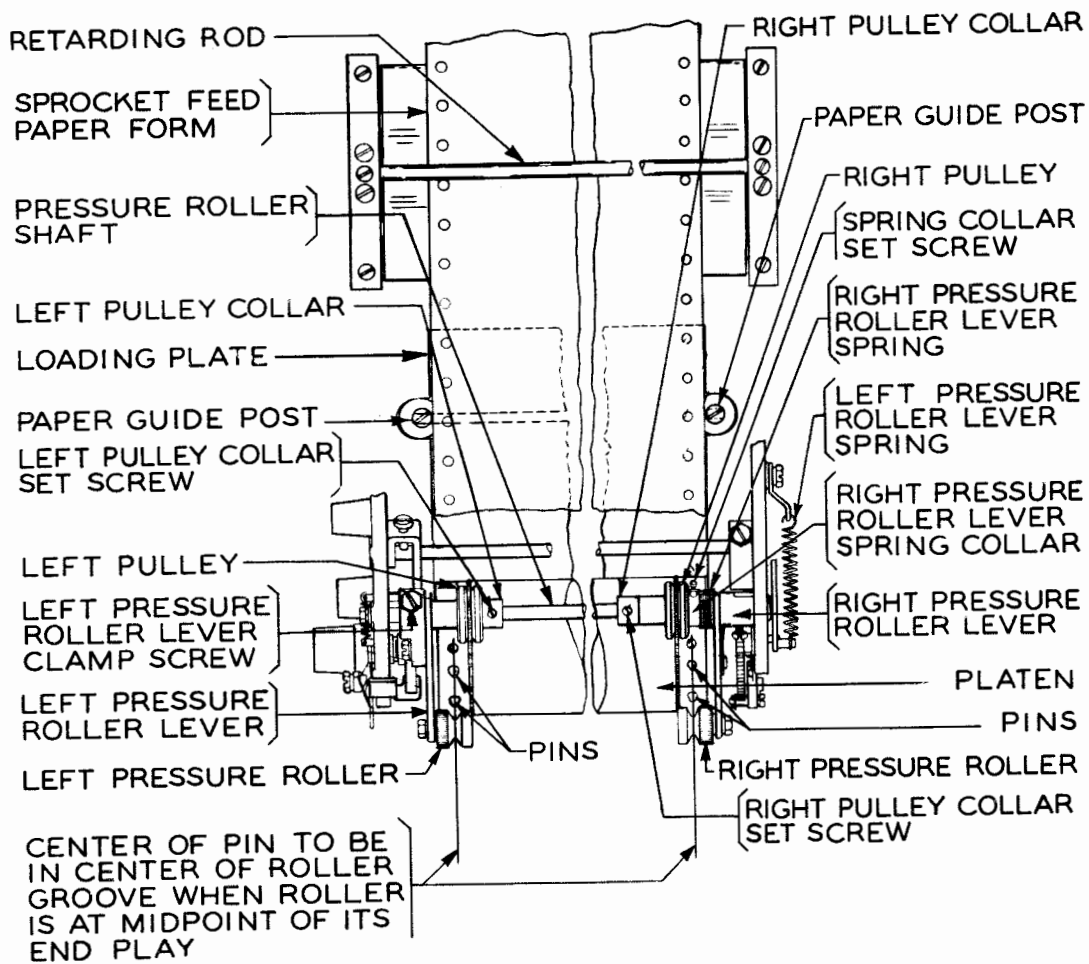
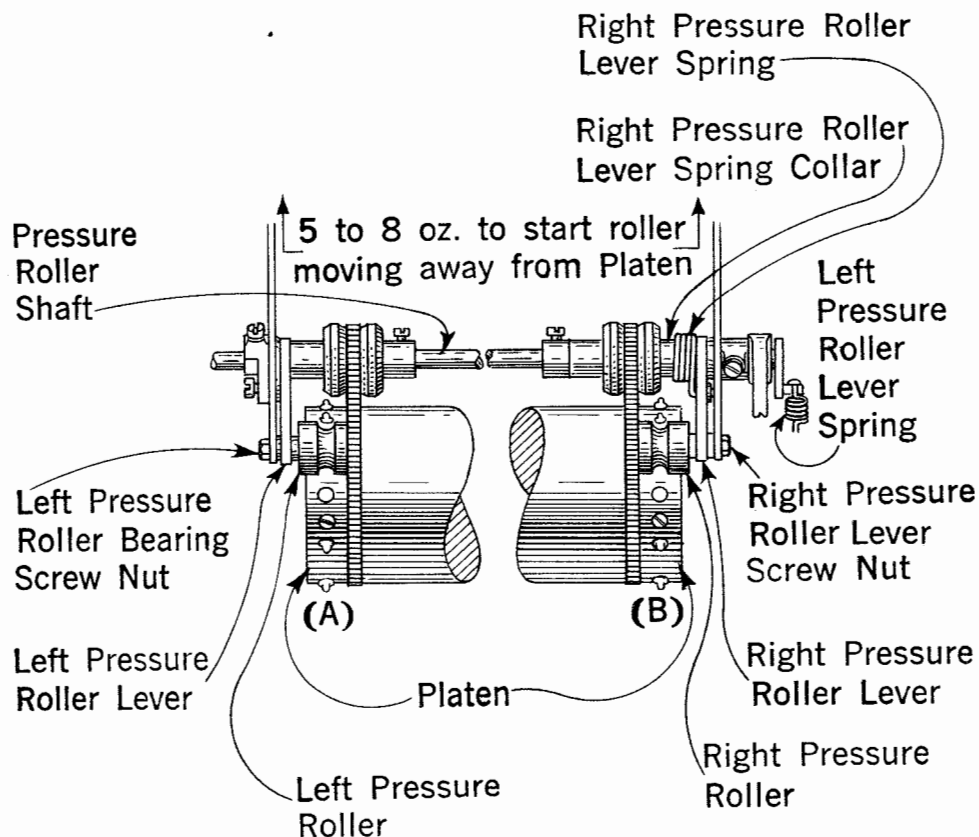

Figure 2
Figure 3
the sprocket pins as in Figure 2 when the roller is at the midpoint of its end-play.
To Adjust: Reposition right pressure-roller-lever spring collar. See Figure 2.
2.04 Left and Right Pressure-roller-lever Springs should have tensions of minimum 5 ounces, maximum 8 ounces measured at the left and right pressure bearing-screw nuts respectively, as in Figure 3, when their respective pressure rollers start to move from platen. See Figure 3.
2.06 Wire Paper Stripper (an improved part superseding paper carrier belts of Figure 2 and Figure 3): There should be some clearance, not more than 0.020 inch, between the front projection of the strippers and the bottom of the platen groove when the rear projection is held against the platen groove.
2.11 Loading-plate Paper-guide Posts should just clear the edges of the forms. See Figure 2.